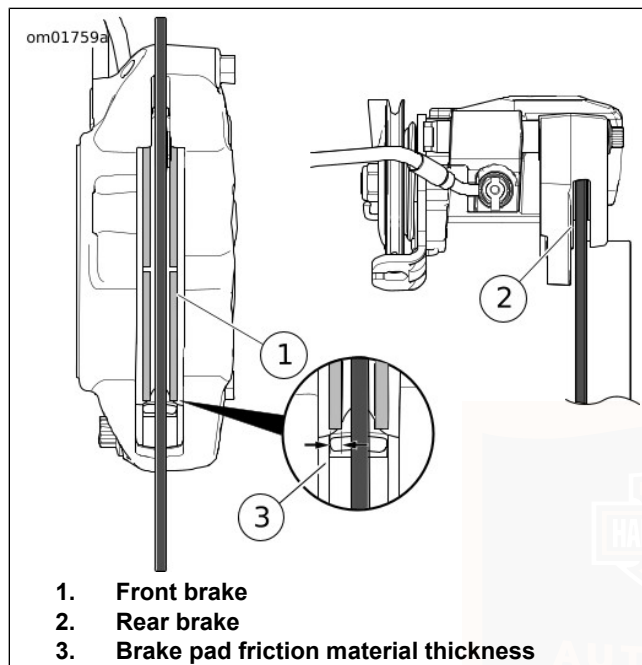

Figure 64. Brake Friction Material
2. See Figure 64. Check the brake disc or rotor as it spins. The disc/rotor should run true in the brake caliper.